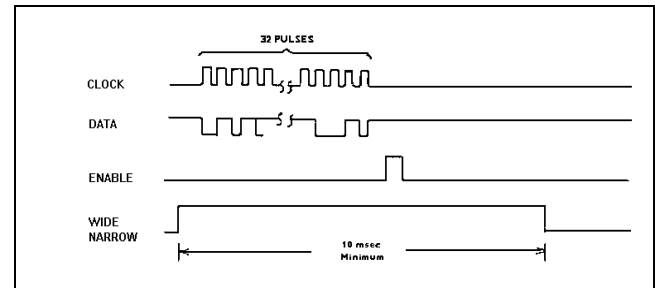

Figure 6 - Clock, Data, Enable, And Wide/Narrow
- g. Verify that the CLOCK, DATA, ENABLE and WIDE/NARROW signals coming from the Control Board are at the proper level and the proper duration (refer to Figure 6).